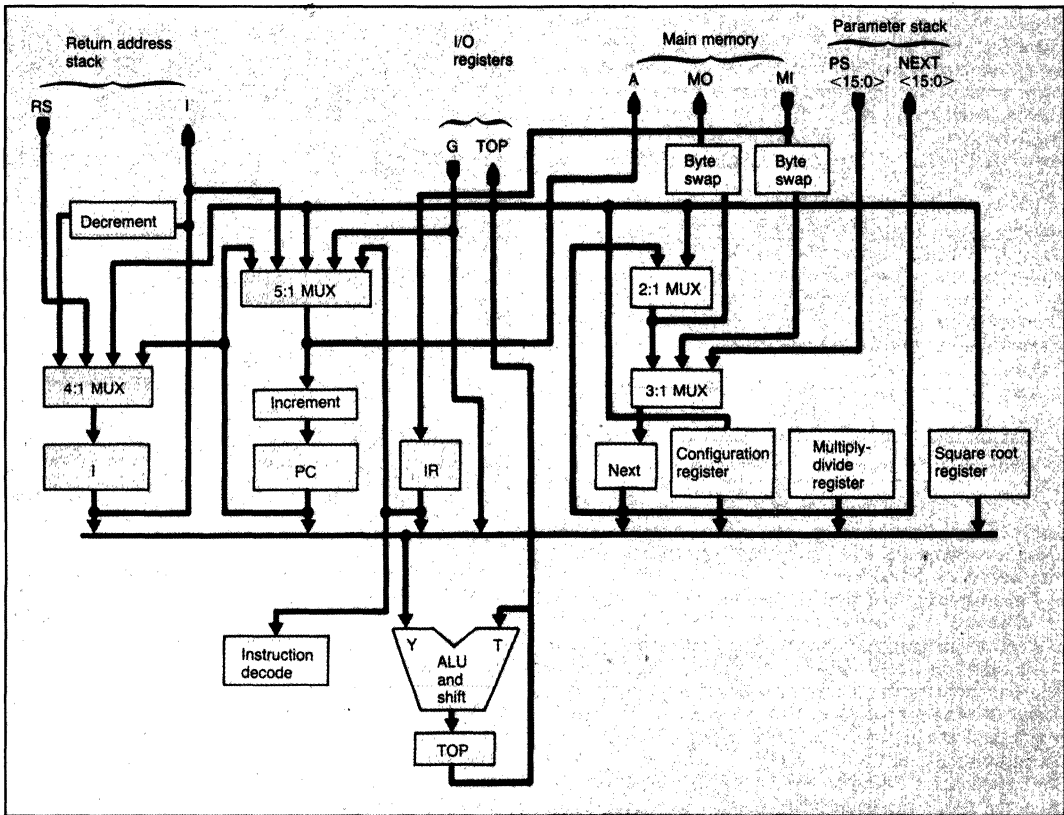

FIGURE 3. Parallel architecture lets three of five processor buses be active for all instructions.
The core's two main work areas, the parameter-stack and return-stack memories, are addressed through identical stack-controller cells (Fig. 3), which generate address pointers within 5 ns from the time that the core's stack, read, and write signals become valid. The ability to quickly generate the stack addresses is critical to maximizing throughput.
The Force core processor's highly parallel architecture (Figure 3) reflects the structure of its horizontal instructions. Its eight main registers provide parallel storage and access to the parameter stack's top two locations (TOP and NEXT), the top location of the return stack (I), the instruction register